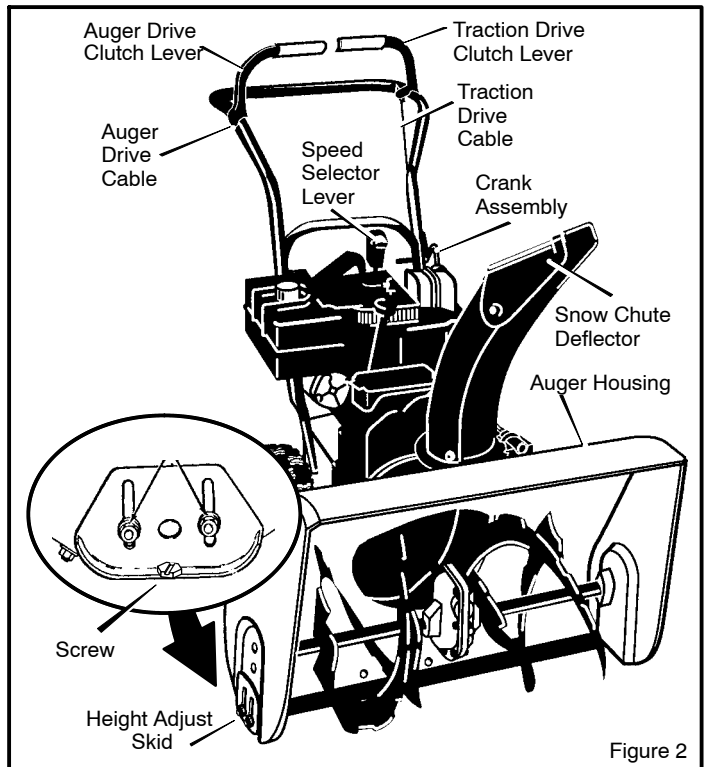

Figure 2
Figure 2 shows the snow blower completely assembled.
6. For shipping purposes, the **height adjust skids** are attached to the pallet. Remove the **screw** that secures each **height adjust skid** to the pallet. (See Figure 2).